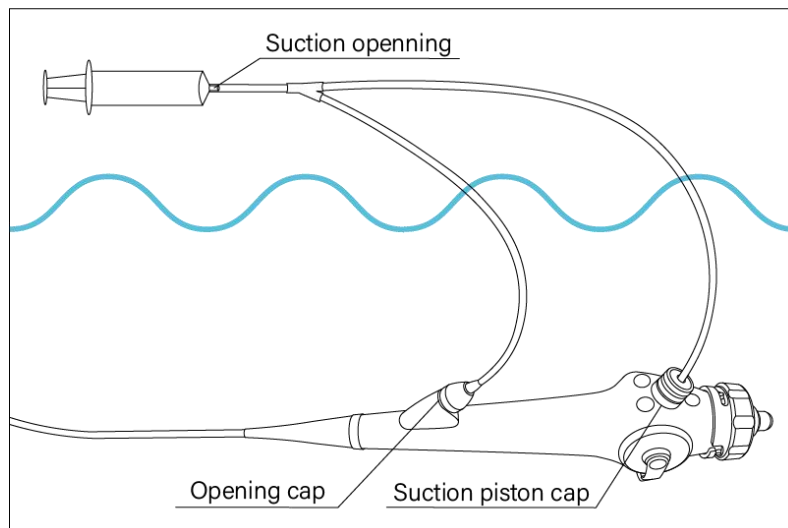

Fig. 7.14
1. Install one end of the Channel flusher to the biopsy channel opening and the other end to the suction base (as shown in Fig. 7.14).
3. Pull up the injector handspike and fill in the washing liquid in the channel, the suction channel and the suction cleaning connector. (as shown in Fig. 7.14)